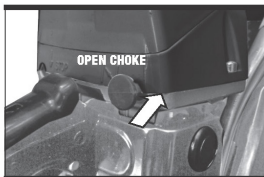

Fig.M3
5. Push the choke lever (10) in to the OPEN Choke position. (Fig. M3)
6. Pull the starter rope(13) sharply with your right hand until the engine starts.
7. Allow the engine to run for approximately 5 seconds. Then, squeeze and release the throttle trigger (11) to allow engine to return to idle speed. The choke lever will in the OPEN CHOKE position. (Fig. M3)